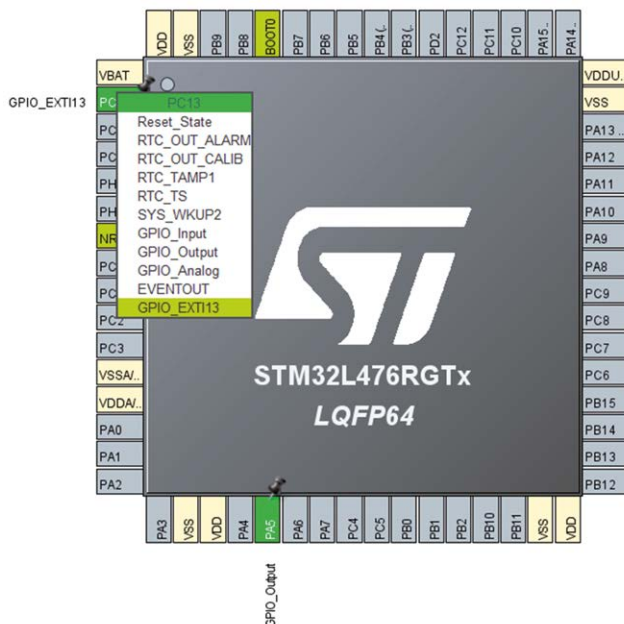

Figure 5.68: Configuring pins PA\_5 and PC\_13.
- click on PC13 and select GPIO\_EXTI13 as shown in Figure 5.68;